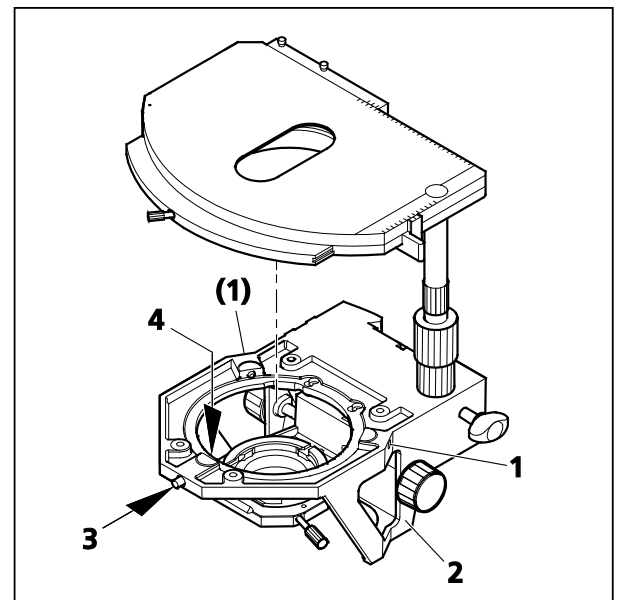

Fig. 63 Changing the rotatable mechanical stage
(1) Removing the stage
- Loosen screw cap (Fig. 63/3) from the spring housing (roughly three rotations).
- Turn back centering screws (Fig. 63/1), if necessary.
- Press the stage to the front against spring pin (Fig. 63/4), lift it off the stage carrier (Fig. 63/2) from the back and remove it upwards.
- Retighten screw cap (Fig. 63/3).
(2) Attaching the stage
- Place the stage with the dovetail groove on the spring pin (Fig. 63/4).
- Press the stage to the front against the spring pin and lower it towards the back of stage carrier (Fig. 63/2), and then release it.